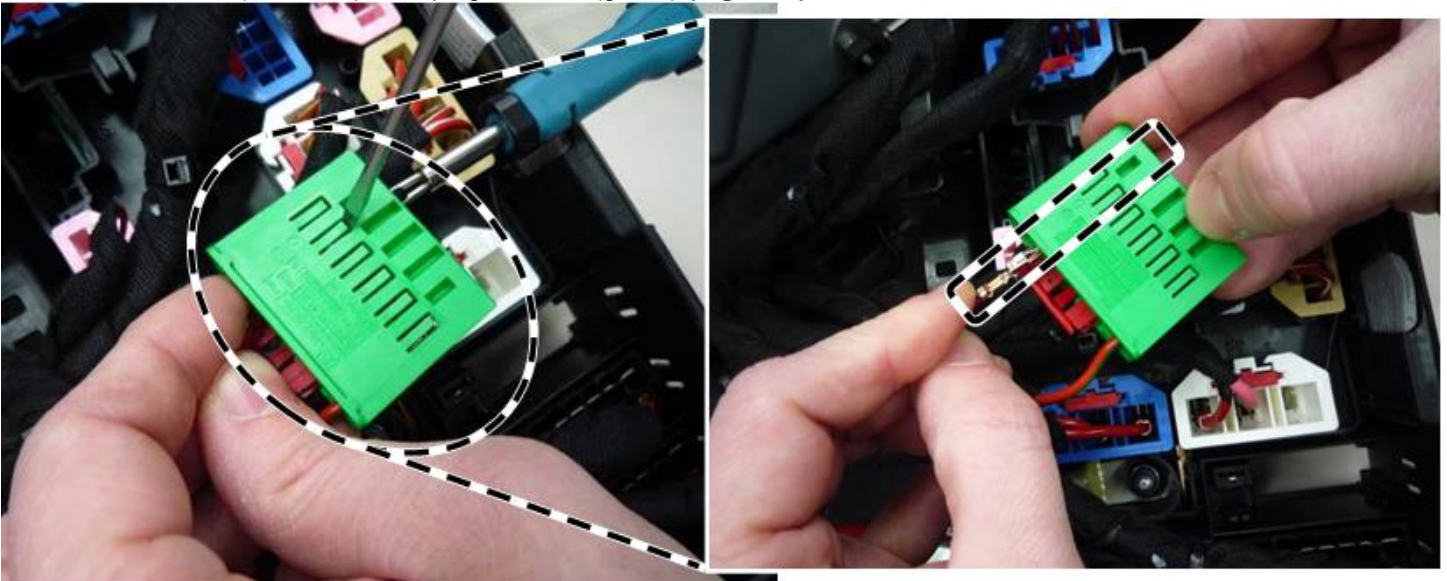

Figure 5
7. Disconnect line (red/black) from plug S1 **Pin2** (green) (**Figure 5**).